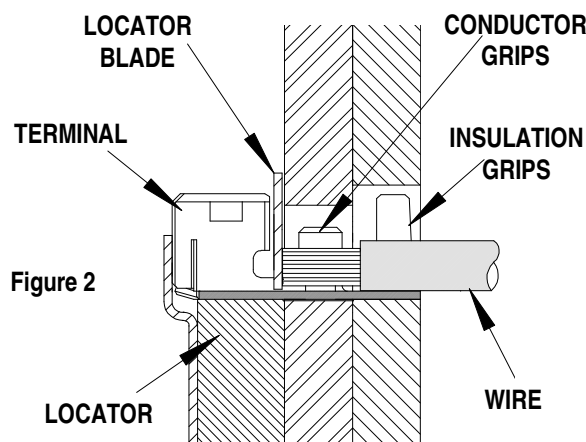

Figure 2
3. Place a wire into the terminal and up against the locator blade. See Figure 2. On tools without locators line the wire up with the conductor and insulation grips visually.